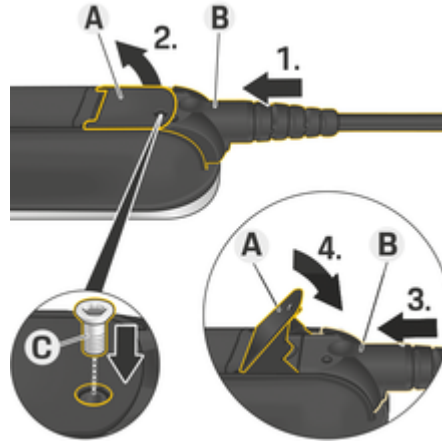

Fig. 9: Connecting cables and securing plugs
- ✓ Lever **A** (Fig. 9) is closed.
1. Insert plug **B** (Fig. 9) into the control unit until you first feel resistance.
5. Secure plug **B** to the control unit with screw **C** (Fig. 9).